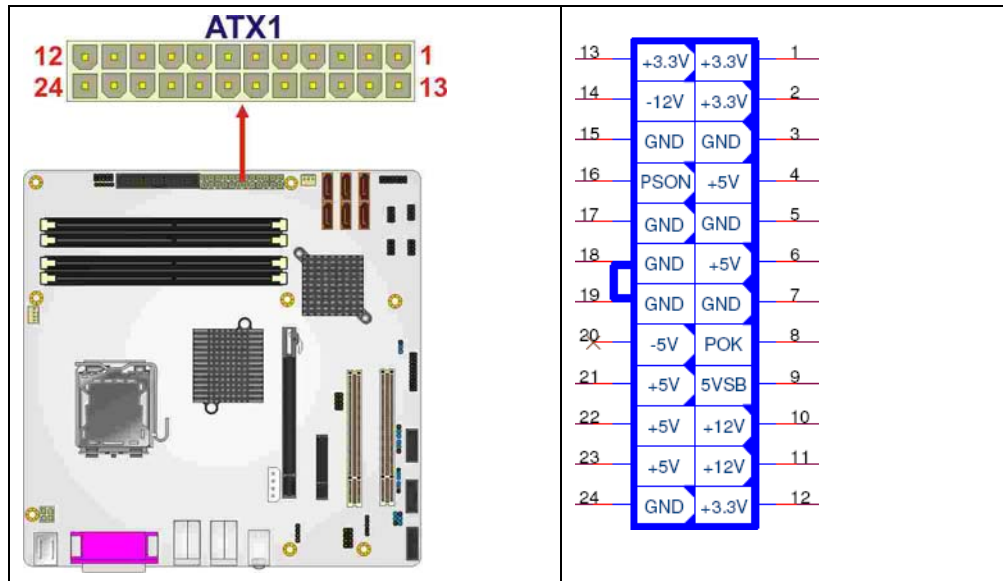

Figure 4-2: ATX Power Connector Pinout Locations
- CN Location:** See **Figure 4-2**